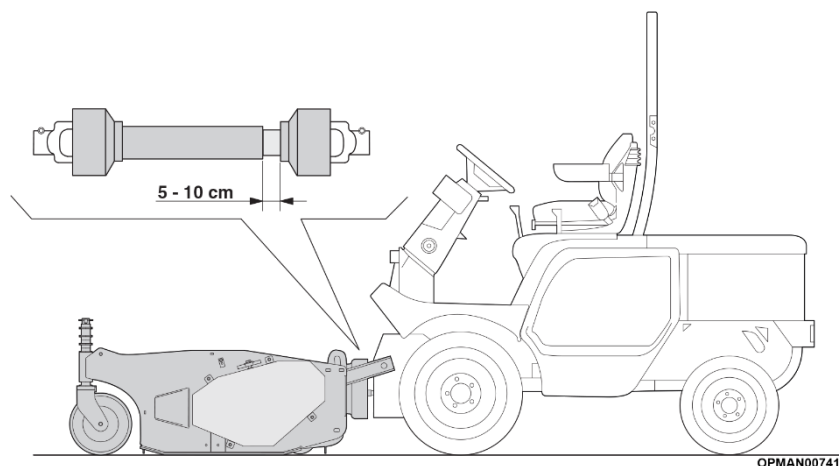

Figure 7
- The correct position of the tractor / Mower assembly is when the equipment is at a distance from the tractor such that the PTO shaft remains extended by no more than 5-10 cm from the maximum closed position (Figure 7).